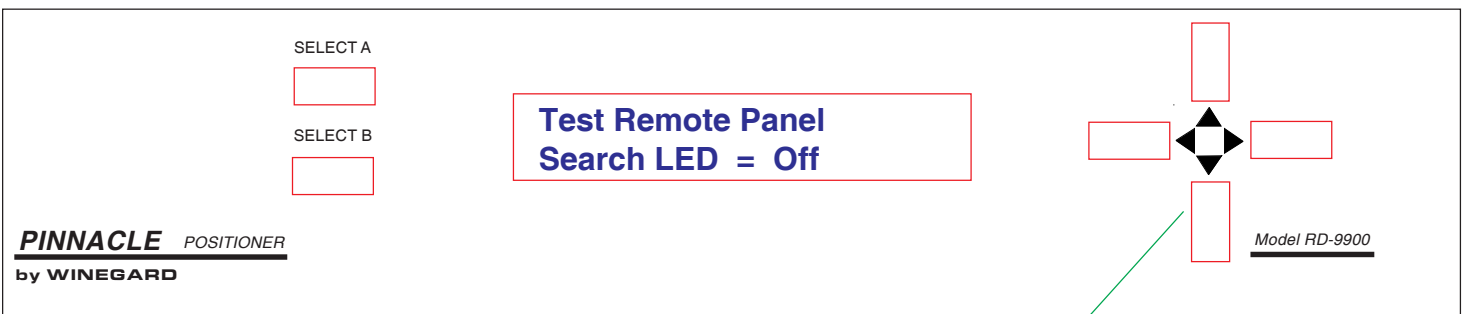

Figure 16
9. Press **[DOWN] arrow button** three times. Search LED will extinguish on remote panel when **Search LED = Off** is displayed on positioner. See Figure 16.